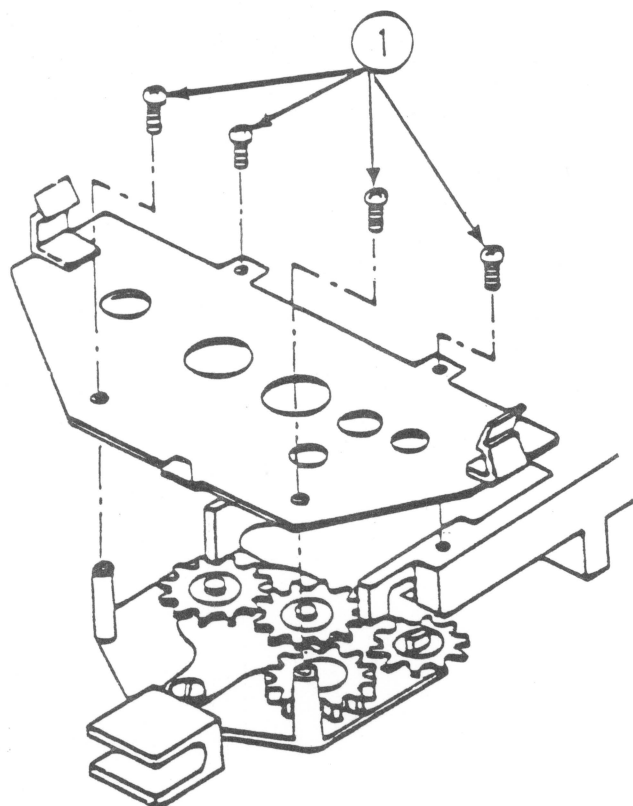

FIGURE 3
6. Remove the four cassette mount plate fixing screws. (See Figure 3, #1.)